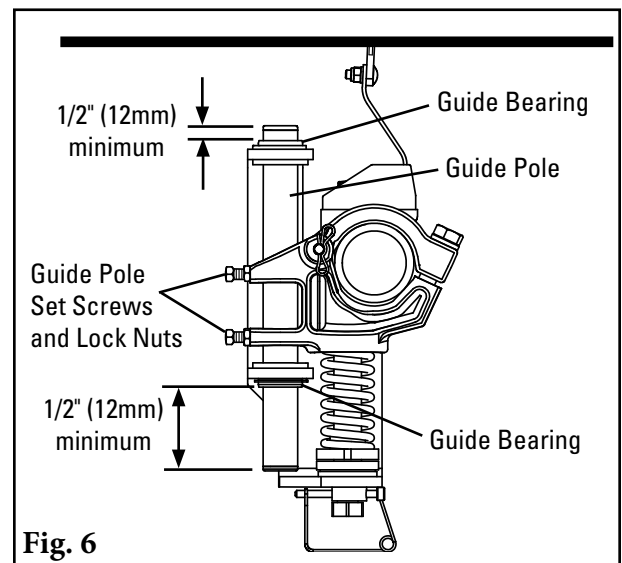

Fig. 6
6. **Secure guide poles.** Ensure the ends of the guide pole extend at least 1/2" (13mm) outside top and bottom guide bearings. If adjustment is necessary, loosen guide pole set screws and lock nuts, then tap guide pole up or down. Tighten guide pole set screws and lock nuts (Fig. 6).